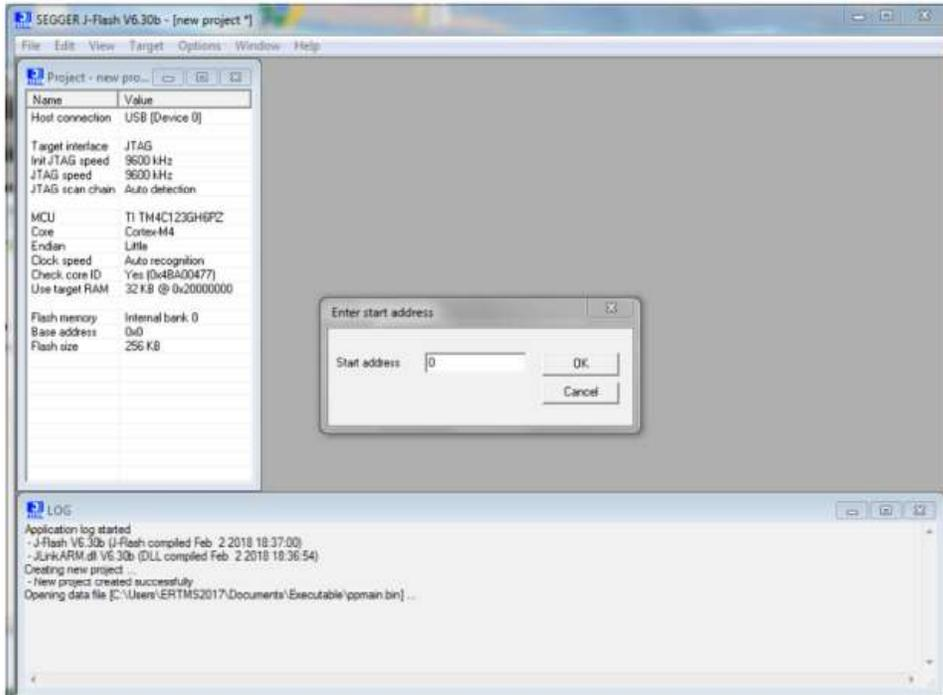

Figure 24: Enter start address [LoadFile\_3]
10. The pop-up “Enter start address” appears. Enter “0” and click “OK” (Figure 24,  STMA-69153);